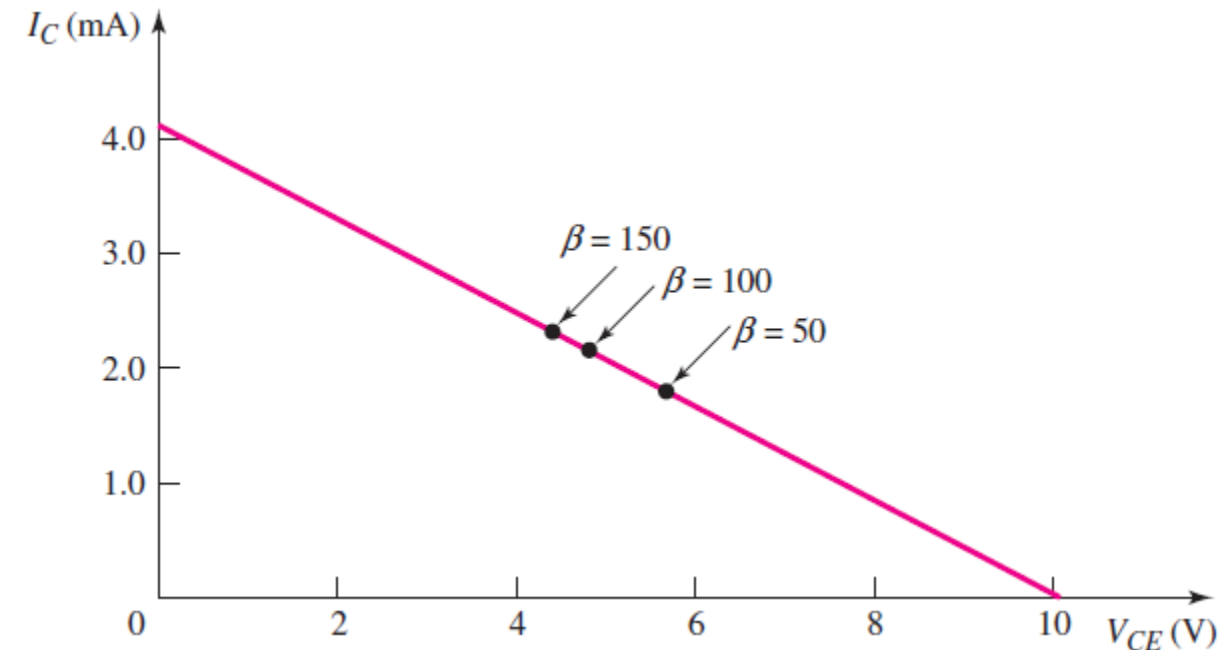

Figure 5.55
- The load line and  $Q$ -points are plotted in Figure 5.55.